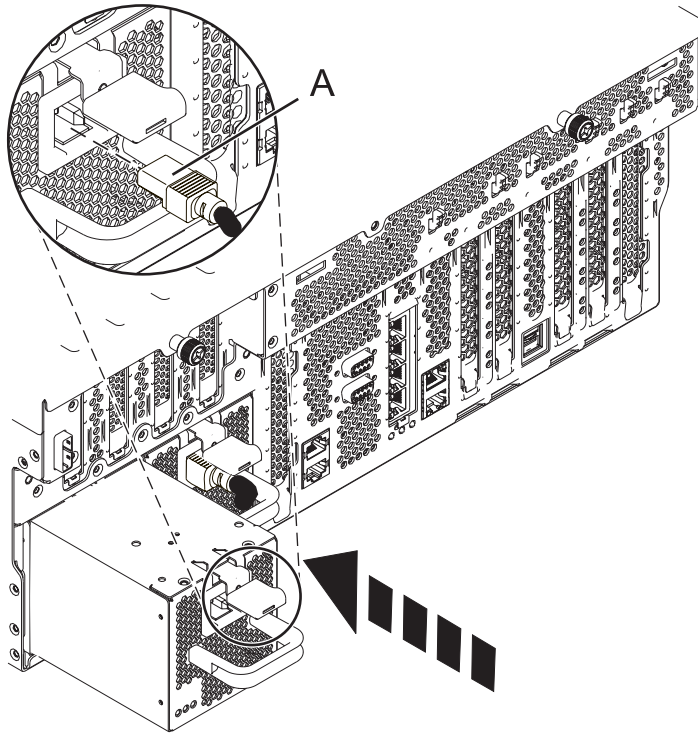

Figure 7. Replacing a power supply
2. Push the power supply into the system until the latch locks in place as shown in *Figure 7* on page 10.
3. Reconnect the power cable (A) to the front of the power supply, as shown in Figure 7.